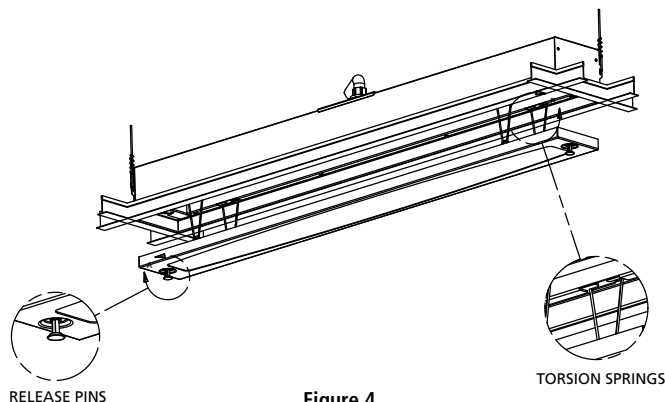

Figure 4
1. On one end of fixture, pull recessed pin downward and grasp firmly. See Figure 4.